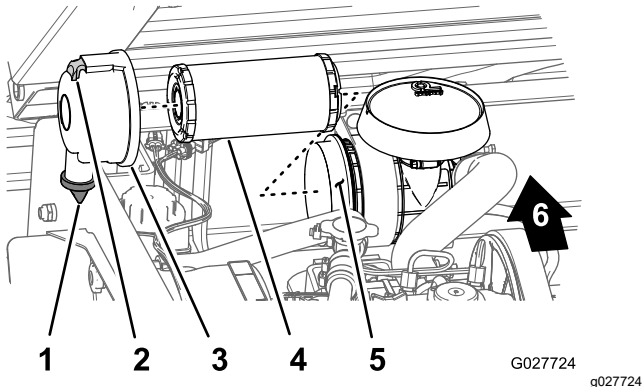

Figure 35
2. Check the air-filter body for damage which could possibly cause an air leak (Figure 35).
3. Pull the latch outward and rotate the air-filter cover counterclockwise (Figure 35).
5. Gently slide the air-filter element out of the air-filter housing (Figure 35) to reduce the amount of dust dislodged.
1. Clean the dirt-ejection port located on the air-filter cover (Figure 35).
2. Remove the rubber outlet valve from the cover, clean the cavity, and replace the outlet valve (Figure 35).
3. Insert the air-filter element into air-filter housing by applying pressure to the outer rim of the element to seat it into the air-filter housing (Figure 35).
4. Align the air-filter cover with the air-filter housing with the rubber outlet valve in a downward position—approximately between the 5 o'clock and 7 o'clock positions when viewed from the end (Figure 35).
5. Secure the cover to the housing with the latches (Figure 35).